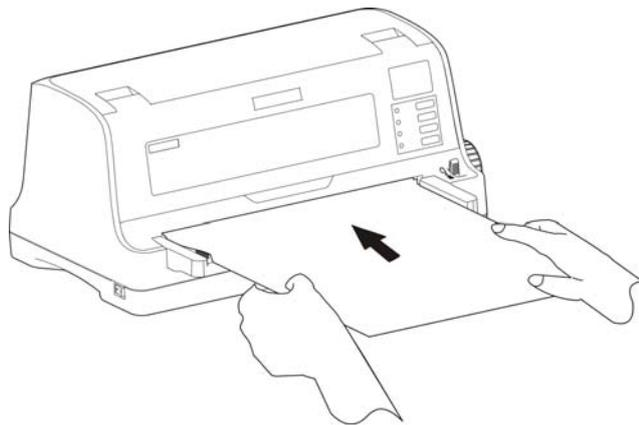

Figure 3-5 Install the bill
4. Insert paper, as shown in Figure 3-5, the paper will be fed to the print position.